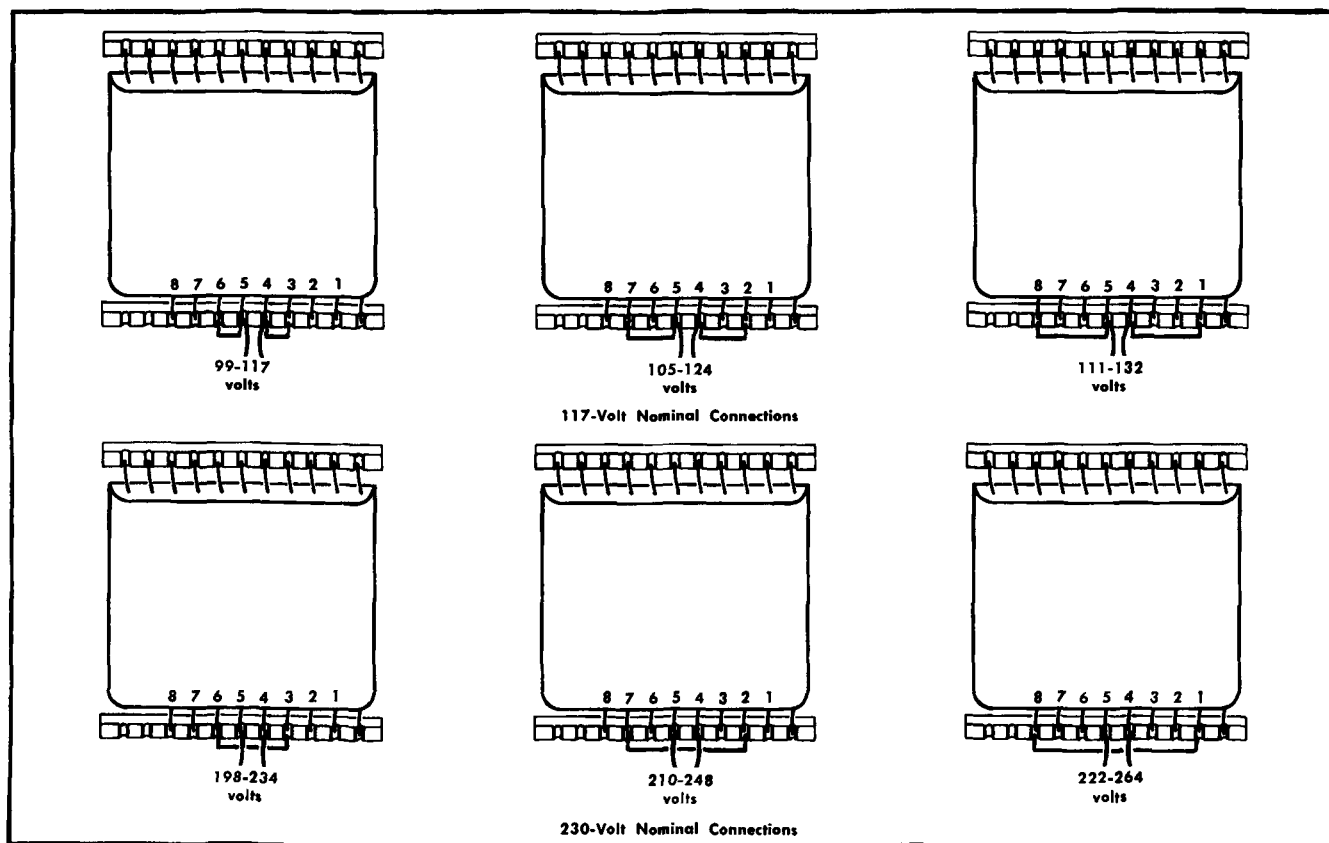

Fig. 2-1. Power transformer primary connections.
2. Connect the transformer for the desired line voltage as shown in Fig. 2-1.